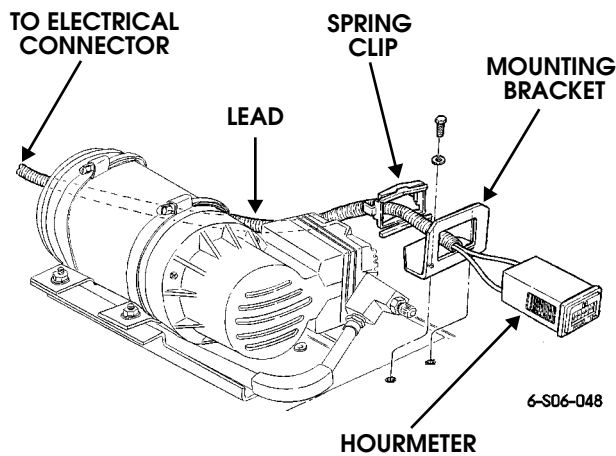

Figure 13-100: Hourmeter Removal
1. Pull tabs on either side of spring clip while simultaneously pulling spring clip away from mounting bracket (Figure 13-100).
1. Secure mounting bracket to driver side cowl with bolts and washers (Figure 13-100).